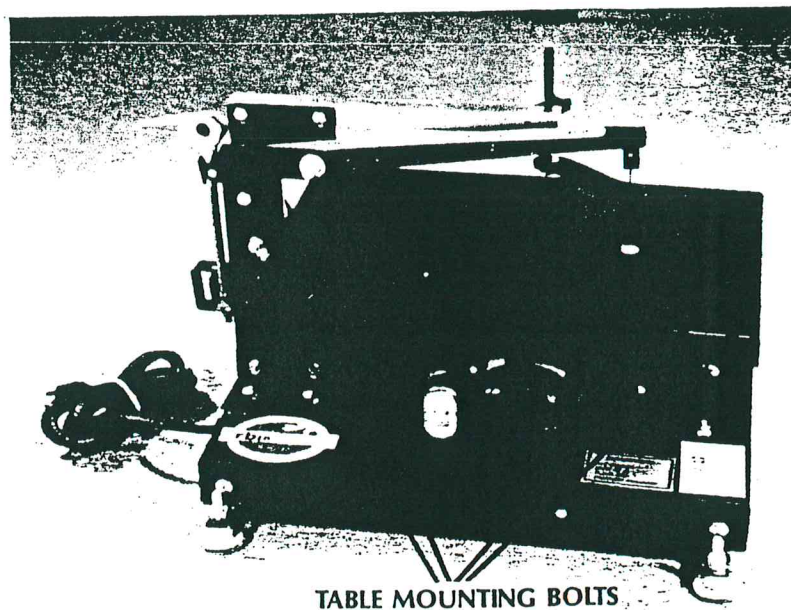

Fig. 12
3. Loosen the four lock nuts on the 1/4" carriage bolts located at the front and rear of the table (two at each end). (fig. 12)
2. Loosen and remove the four 1/4" carriage bolts located at the front and rear of the table (two at each end). (fig. 12)